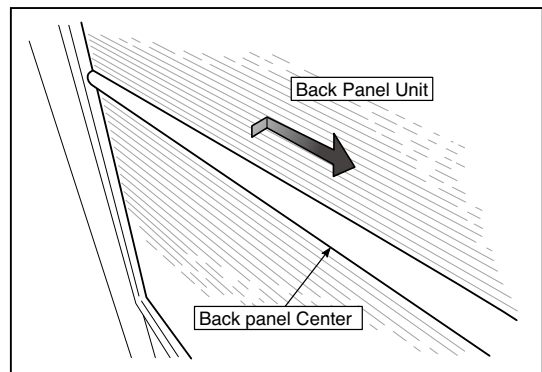

Fig.13
- 2.Slide the Back Panel and remove it while pushing the Back Panel Unit corner shown in the figure 13 forward.